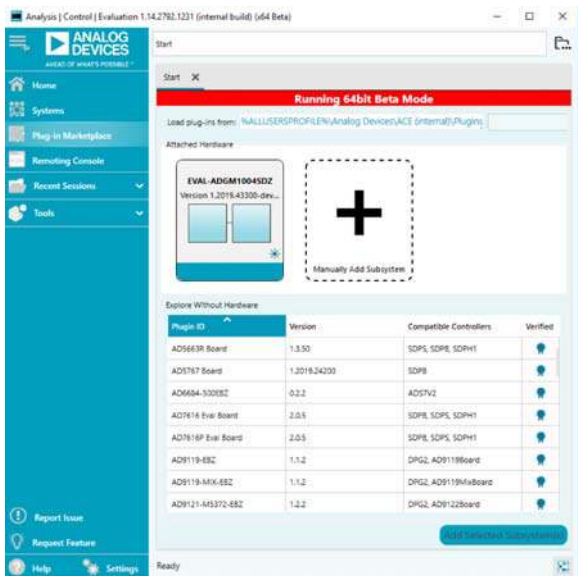

Figure 2. EVAL-ADGM1004SDZ Plugin Startup Window
5. Run the ACE software. The EVAL-ADGM1004SDZ plugins appear in the **Attached Hardware** section of the **Start** tab (see Figure 2).